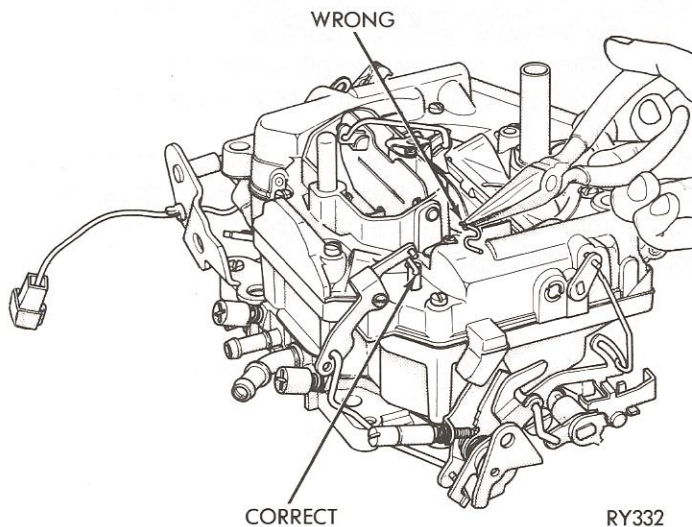

Fig. 19—Pump Shaft "S" Link Installation
(17) Install solenoid bowl vent assembly and tighten securely.
(18) Engage pump rod "S" link with hole in accelerator pump arm, then position arm on air horn and install pump arm screw (Fig. 19). Operate lever to check freedom of operation after tightening screw.
(19) Engage throttle connector rod with hole in throttle lever. Install other end of accelerator pump arm (in specified hole) and install rod retainers.
(20) Install step up piston spring in piston cylinder, followed by step up rods and piston and arm assembly. Install cover plate and attaching screw. Tighten securely.
(21) Engage choke connector rod with hole in choke shaft lever, then swing rod at an arc until rod can engage choke countershaft. Install rod retainer.
(22) Engage choke diaphragm connector rod to air valve lever, then install washer and rod retainer. Install other end to choke vacuum diaphragm plunger and install rod retainer.
(23) Position duty cycle solenoid with gasket, on the air horn. Tighten retaining screws securely.
(24) Install idle stop carburetor switch and bracket.